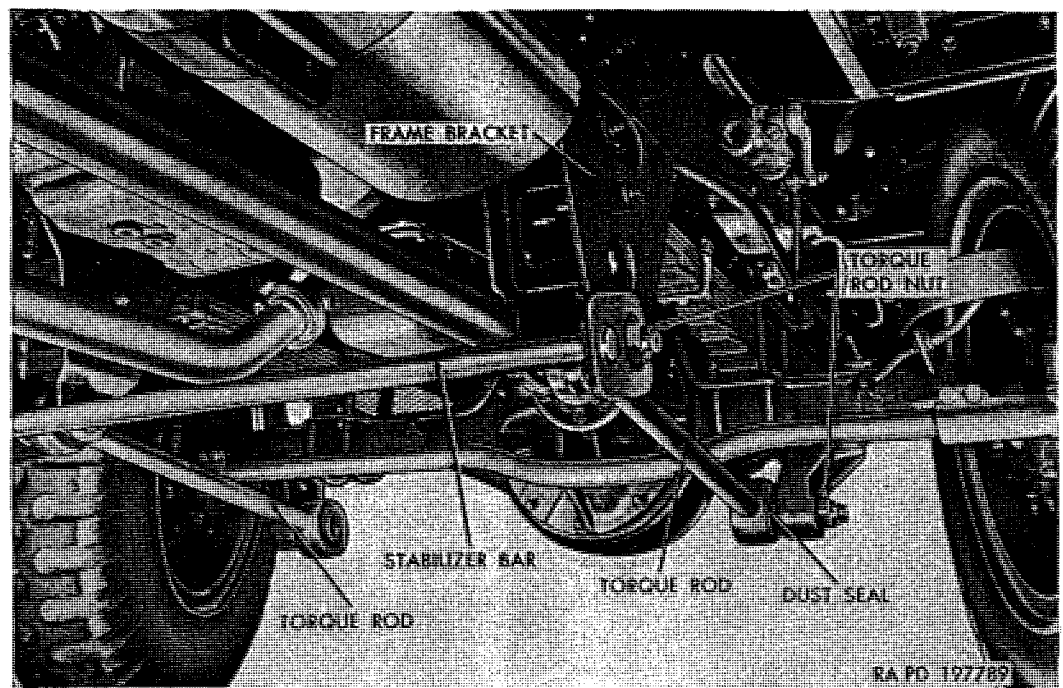

Figure 287. Right lower torque installed.
b. Lower Torque Rod Removal (fig. 287).
- (1) Jack up frame enough to relieve tension from spring.
- (2) At frame bracket end of torque rod to be removed, remove nut from bolt. Drive bolt out of lower bracket and torque rod bearing, using a soft metal hammer and drift. The removal of both torque rod bolts also removes the stabilizer bar which is held in position on spring and torque rod brackets by the torque rod bolts.
- (3) At axle end of torque rod to be removed, remove nut and flat washer from torque rod tapered end pin. Using soft metal hammer, drive pin out of axle bracket.
c. Lower Torque Rod Installation (fig. 287).
- (1) Place dust seal on both sides of torque rod bearing at frame bracket end. Position dust seal over end pin at axle end of rod.
- (2) Position torque rod tapered pin in axle bracket, being careful not to dislodge dust seal from bearing.
- (3) Position torque rod end with seals in frame bracket; position stabilizer bar end plate on outside of frame bracket. From inside of frame bracket, insert torque rod bolt through frame bracket, torque rod, and stabilizer bar end plate. Drive bolt into place, using a soft metal hammer.